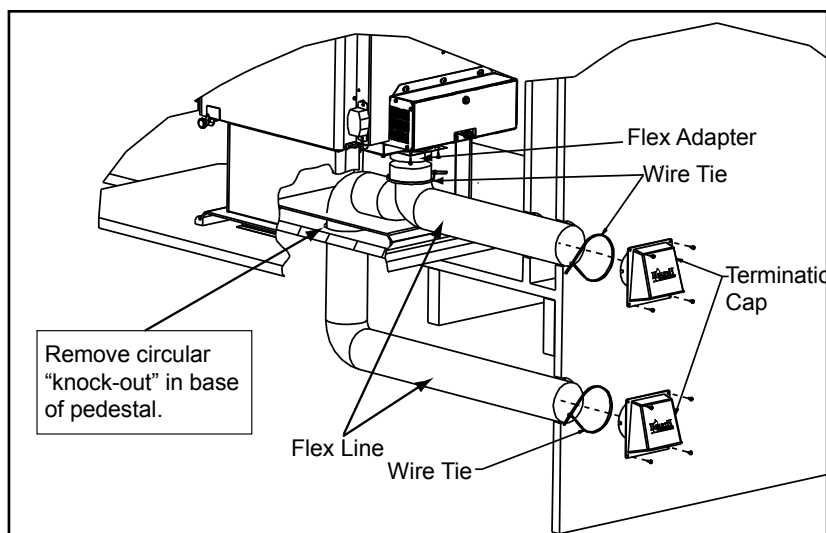
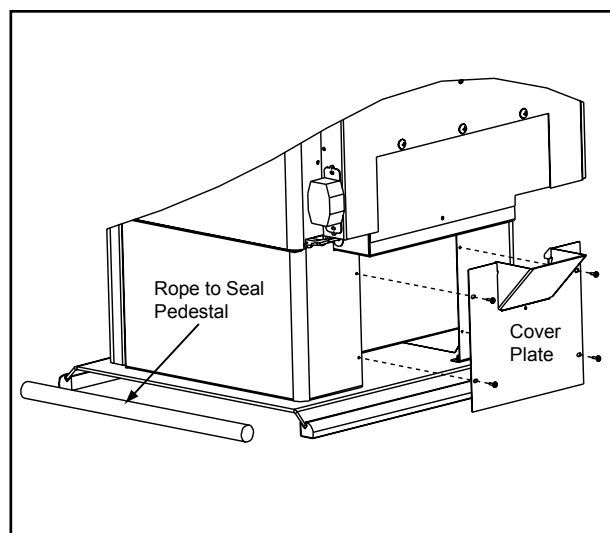

Figure 14.1 - Floor & Rear Installation
Figure 14.2 - Floor Installation Alternative
**Included in OAK-ACC:** Termination cap, (2) wire ties, flex adapter, and fasteners
**Included in SRV7033-041:** Cover plate and sealing rope (see Floor Installation Alternative below, **Figure 14.2**)
2. Using a #2 Phillips screw driver attach the flex adapter to the stove using 4 screws. **Figure 14.1.**
5. **Floor Installation Alternative:** In some instances you may not be able to install the flex pipe as show in **Figure 14.1.** If that is the case, you will need to order SRV7033-041 which includes a cover plate and sealing rope as shown in **Figure 14.2.** The goal is to seal the pedestal so no room air can leak into the pedestal.